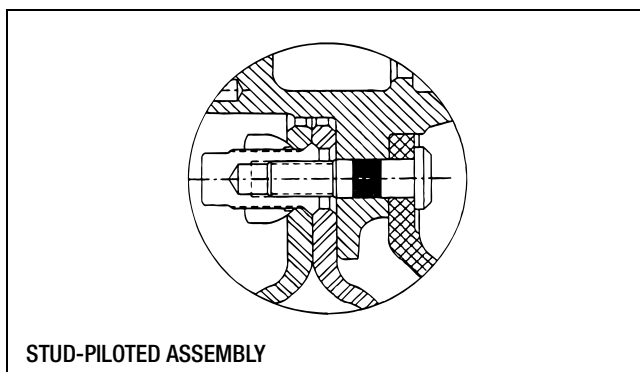

Figure 3.6
- The stud-piloted assembly uses centering fasteners, ball seats, to pilot the disc wheels, which have mating spherical nut seats. Figure 3.6.